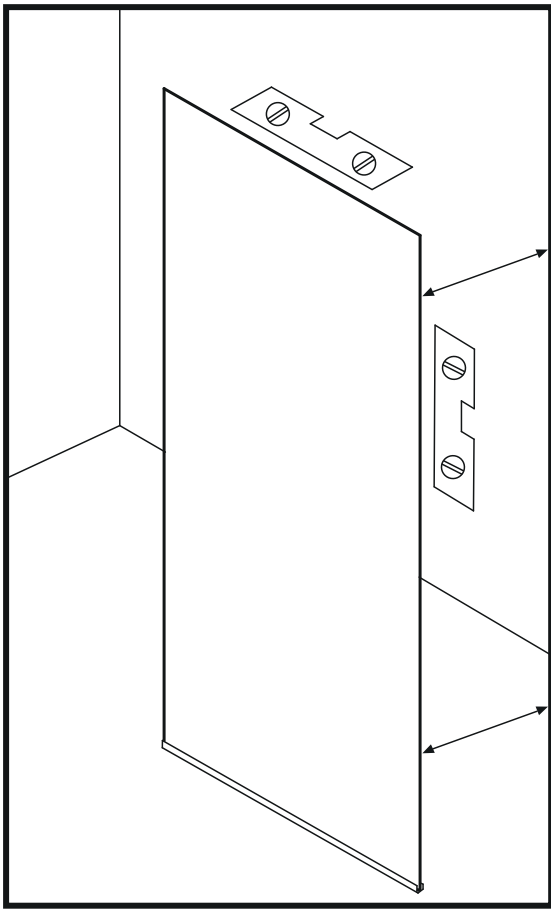

Figure 4
11. Install the telescopic tubes at right angles to the wall. Use a level to ensure the glass is in the correct position. (Figure 4)